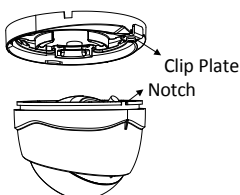

Figure 2-10 Disassemble the Camera
1. Disassemble the turret camera by rotating the camera to align the notch to the clip plate, as shown in the Figure 2-10.